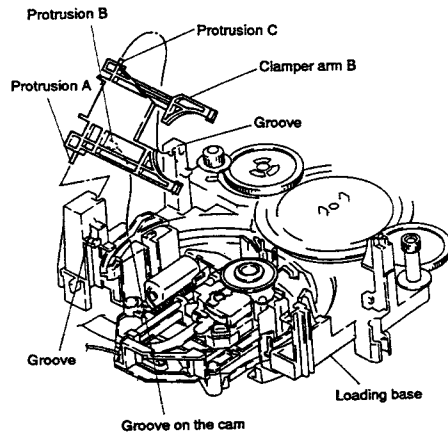

Fig. 2-6
- (1) As shown in Fig. 2-6, insert the protrusion A of the clamber arm B into the groove of the loading base, and insert the protrusion C into the groove on the loading base, while the protrusion B being inserted into the groove on the clamber cam.